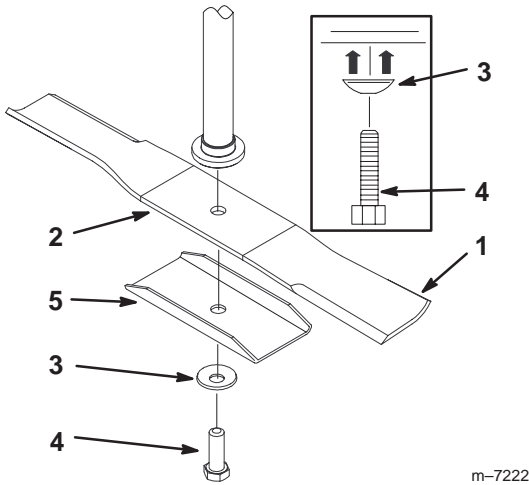
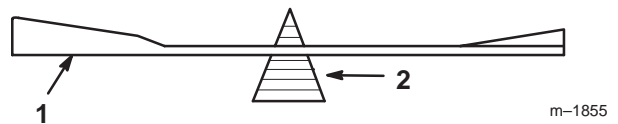

Figure 36
Figure 38
Hold the blade end using a rag or thickly-padded glove. Remove the blade bolt, curved washer, stifener and blade from the spindle shaft (Fig. 36).
2. Check the balance of the blade by putting it on a blade balancer (Fig. 38). If the blade stays in a horizontal position, the blade is balanced and can be used. If the blade is not balanced, file some metal off the end of the sail area only (Fig. 36). Repeat this procedure until the blade is balanced.
1. Install the blade onto the spindle shaft with the stifener (Fig. 36).
2. Install the stiffener and blade bolt (Fig. 36). Torque the blade bolt to 35–60 ft-lb (47–88 N·m).